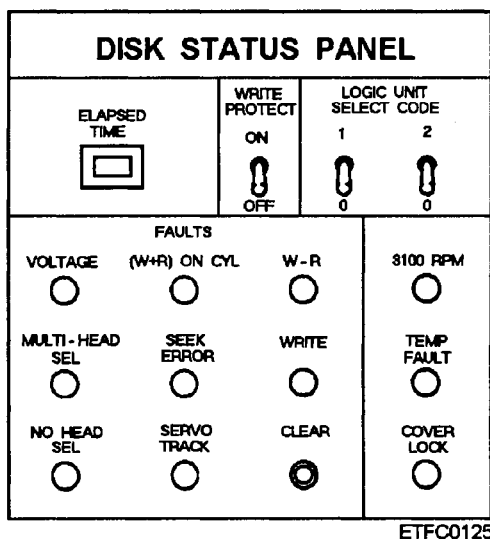

Figure 10-13.—A disk status panel (memory unit only).
The disk status panel, shown in figure 10-13, is found on the memory unit (MU). It performs the same functions as a status/maintenance panel with the exception of the FUNCTION/MESSAGE and FAULT readout. As the memory units do not have a controller, the readout is replaced by a number of FAULT indicators and a CLEAR push button. The faults indicated are the same as the eight fault readout conditions listed in table 10-8. The CLEAR pushbutton does not clear the fault condition, it clears the indicators only if the fault condition causing the indication has been corrected.